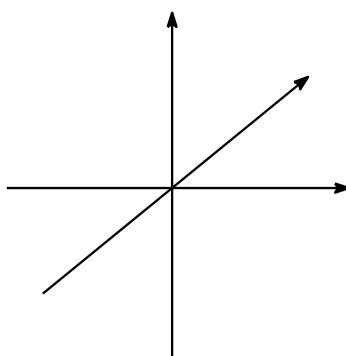

Fig. 4.1
- (iii) Draw, on the Cartesian axes provided in Fig. 4.1, the orbital from which the first electron of palladium is removed. Label the axes and orbitals clearly.